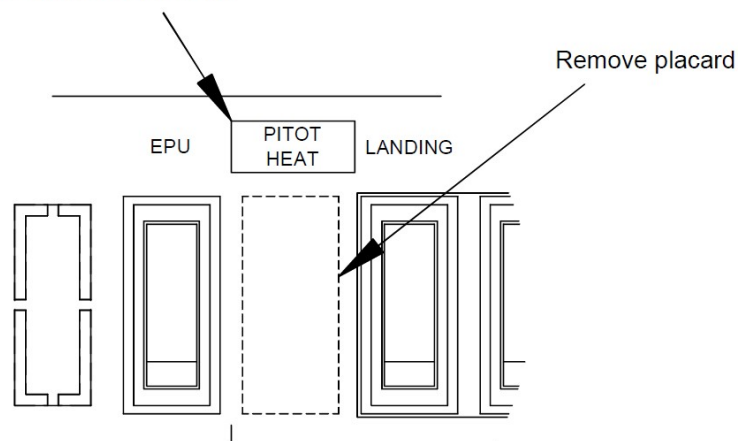

Figure 4: LIGHTS Panel
- 11.1.7** Remove the section of placard located over the switch opening and replace the existing "PULSE" text with "PITOT HEAT", as shown in Figure 4.